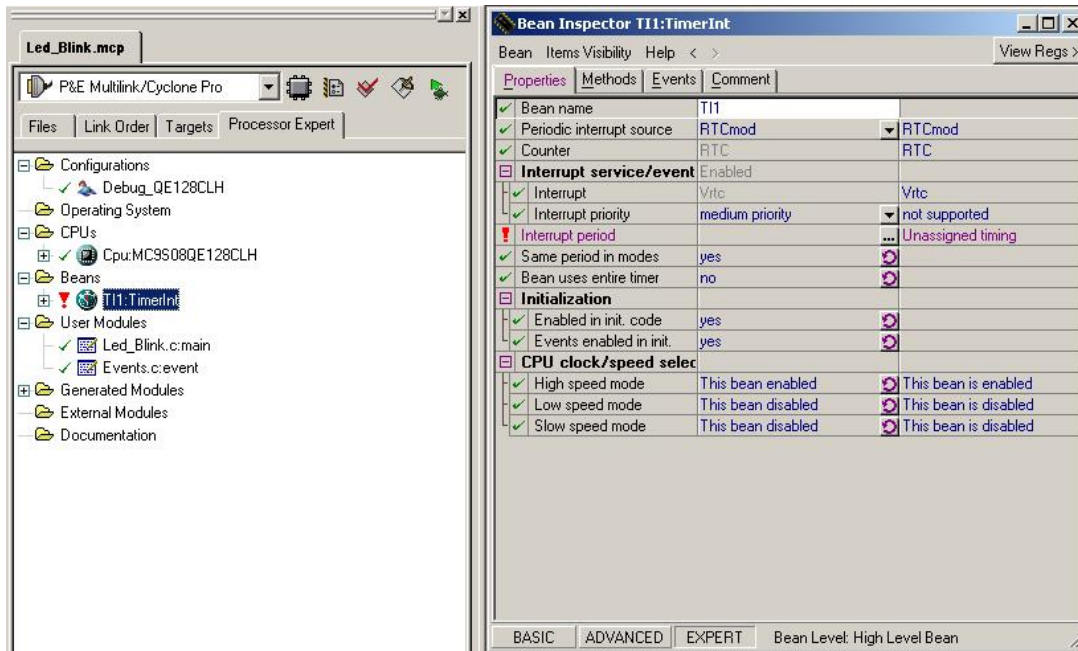

Figure 14. Bean Inspector window - TimerInt Bean
1. In the Processor Expert tab on the left panel, in the Beans folder, the new TimerInt bean is displayed (Figure 14).